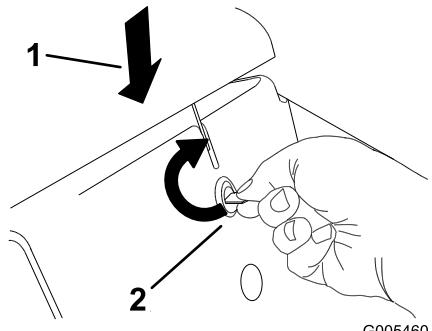

Figure 27
- Push down on the hood while using a coin or screwdriver to turn the hood latch clockwise (Figure 27).